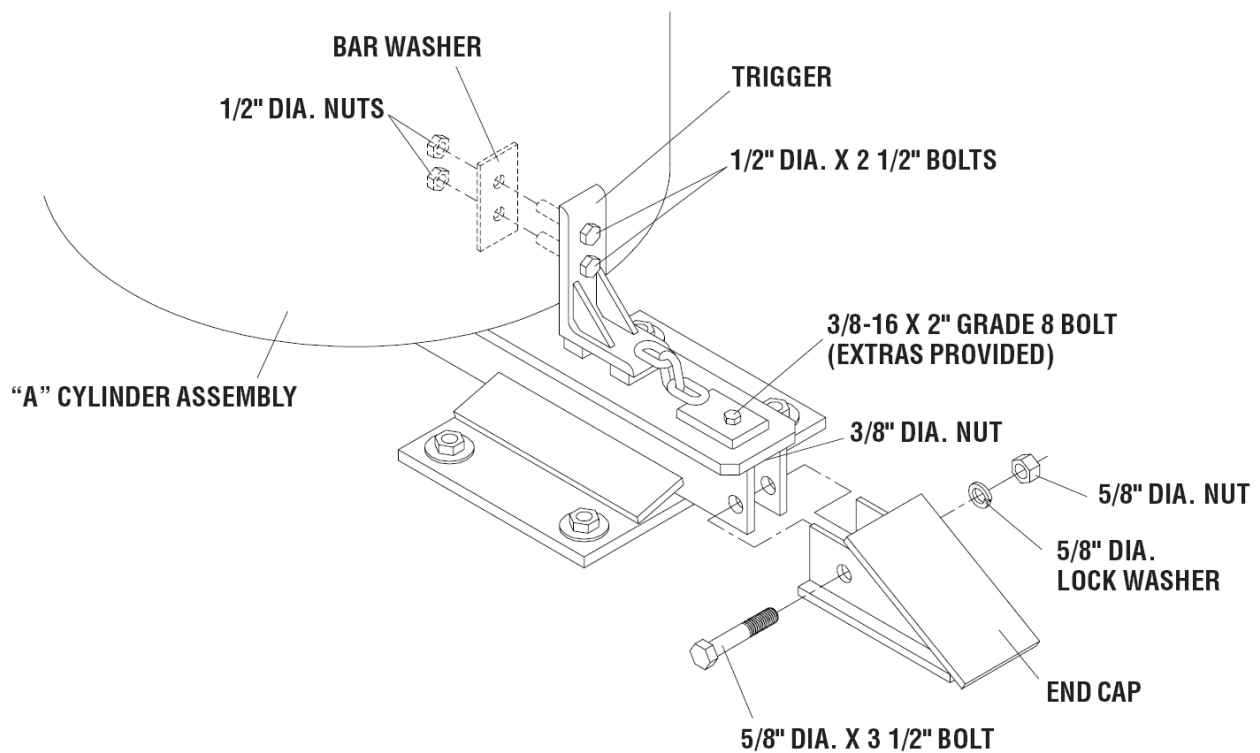

Figure 14
1. Use two 1/2" diameter x 2 1/2" bolts, two 1/2" diameter nuts, and Bar Washer to attach trigger to "A" Cylinder Assembly (Figure 14).
2. Use hole in trigger to locate and drill 7/8" hole in center of Monorail as shown in Figure 14.
3. Use 3/8" diameter x 2" grade 8 bolt and 3/8" diameter nut provided to attach trigger to Monorail as shown in Figure 14.